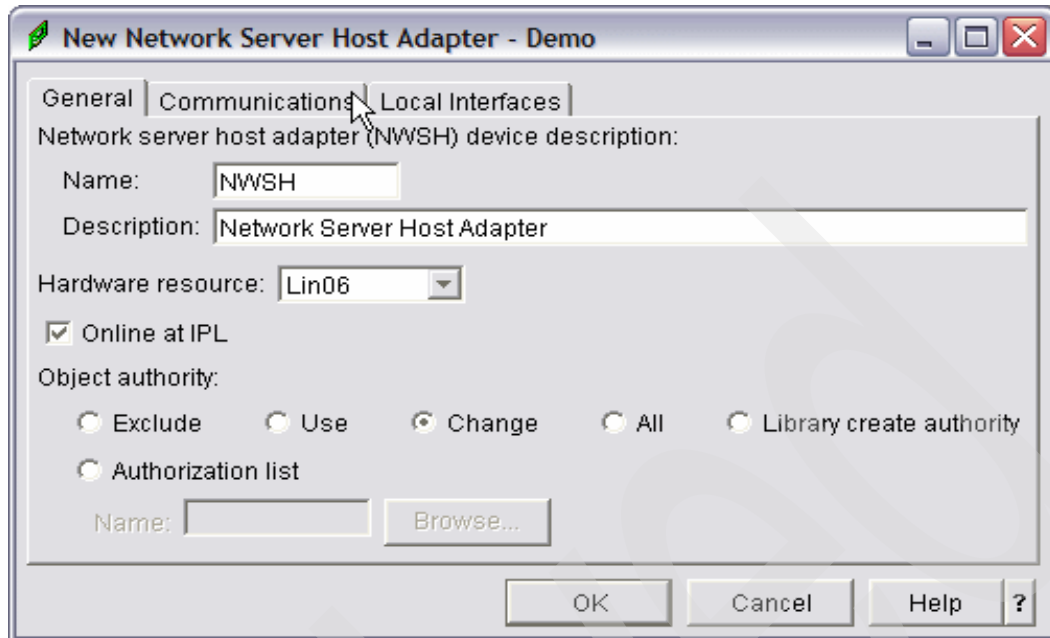

Figure 6-4 General tab: New Network Server Host Adapter window
- c. The New Network Server Host Adapter window opens. On the General tab, enter the following (Figure 6-4 on page 157):